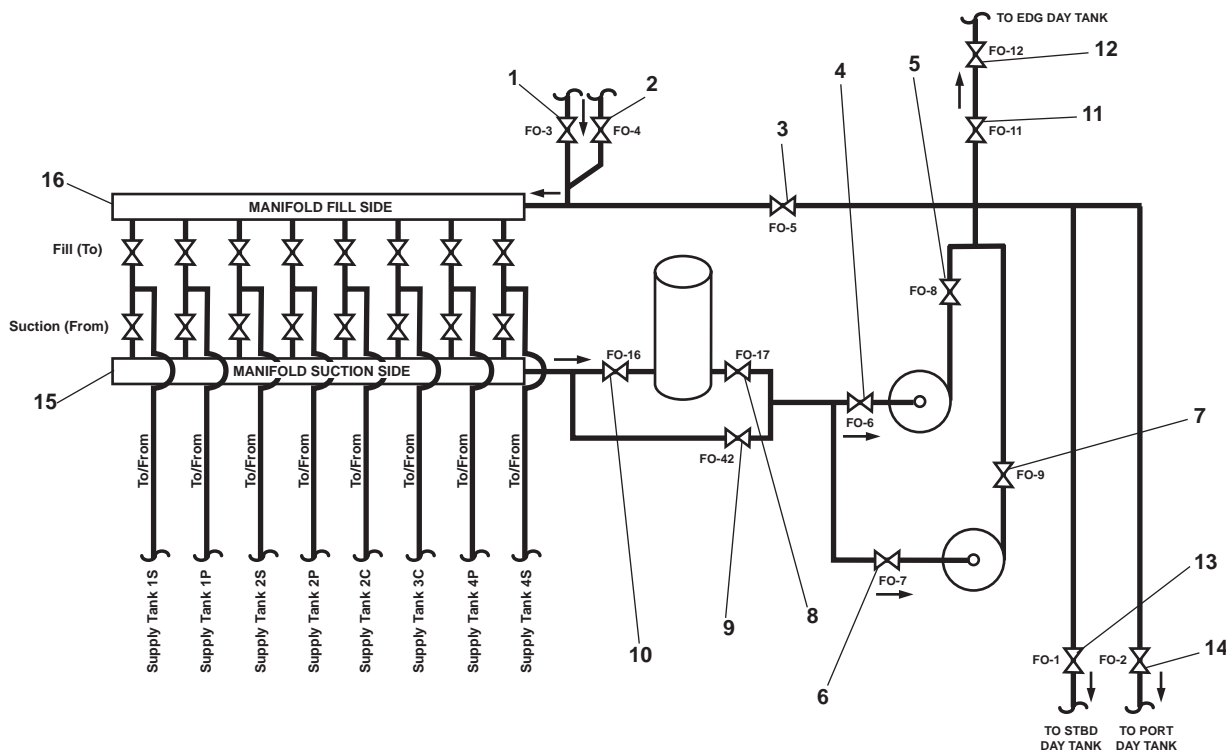

Figure 8. Fuel Oil Valve Locations
- (1) FO-3, DK. FILL CONN (figure 8, item 1)
- (2) FO-4, DK. FILL CONN (figure 8, item 2)
- (3) FO-5, F.O. DAY TK EMERG FILL (figure 8, item 3)
- (2) OPEN FO-17, F.O. FLTR/WATER SEP OUTLET. COV (figure 8, item 8).
- (3) CLOSE FO-42, F.O. FLTR/WATER SEP BYPASS COV (figure 8, item 9).
- (4) OPEN FO-16, F.O. FLTR/WATER SEP INLET. COV (figure 8, item 10).
- (5) Place one fuel oil transfer pump online:
- (a) To place fuel oil transfer pump 1 online, OPEN FO-6, C.O.V.-F.O. XFER PMP No. 1 SUCTION (figure 8, item 4) and FO-8, C.O.V.-F.O. XFER PMP No. 1 DISCHARGE (figure 8, item 5).
- (b) To place fuel oil transfer pump 2 online, OPEN FO-7, C.O.V.-F.O. XFER PMP No. 2 SUCTION (figure 8, item 6) and FO-9, C.O.V.-F.O. XFER PMP No. 2 DISCHARGE (figure 8, item 7).
- (1) CLOSE FO-16, F.O. FLTR/WATER SEP INLET. COV (figure 8, item 10).
- (2) CLOSE FO-17, F.O. FLTR/WATER SEP OUTLET. COV (figure 8, item 8).
- (3) OPEN FO-42, F.O. FLTR/WATER SEP BYPASS COV (figure 8, item 9).
- (4) OPEN FO-6, C.O.V.-F.O. XFER PMP NO. 1 SUCTION (figure 8, item 4).
- (5) OPEN FO-8, C.O.V.-F.O. XFER PMP NO. 1 DISCHARGE (figure 8, item 5).
- (6) OPEN FO-7, C.O.V.-F.O. XFER PMP No. 2 SUCTION (figure 8, item 6).
- (7) OPEN FO-9, C.O.V.-F.O. XFER PMP No. 2 DISCHARGE (figure 8, item 7).
- (1) FO-11, F.O. TO E.D.G. DAY TK (figure 8, item 11)
- (2) FO-12, E.D.G. DAY TK FILL (figure 8, item 12), located in the emergency diesel generator room
- b. To fill the starboard fuel oil day tank, place FO-1, starboard F.O. DAY TK. FILL (figure 8, item 13) in the OPEN position.
- c. To fill the port fuel oil day tank, place FO-2, port F.O. DAY TK. FILL (figure 8, item 14), in the OPEN position.
- d. On the fuel oil manifold, OPEN the suction (from) valve (figure 8, item 15) for the selected fuel oil supply tank.